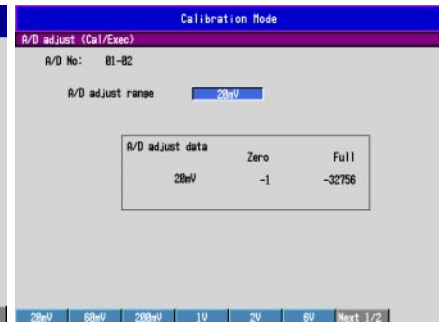

Figure 4.5 Range select on screen.
- 7 Select item #2 for **Cal/Exec**. The screen in figure 4.5 appears.